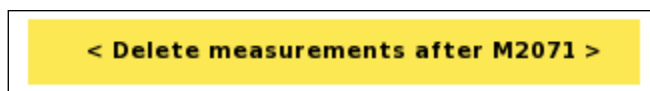

Figure 60 Delete data points Option menu
- Highlight “<Delete measurements after Mxxxx>” (Mxxxx represents a measurement id) (Figure 60)